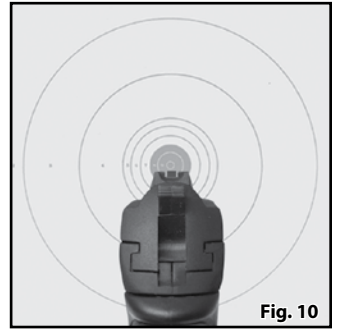

Fig. 10
- The top of the front sight blade should be even with the top of the notch in the rear sight. The bulls-eye should appear to rest on the top of the front sight (Fig. 10).